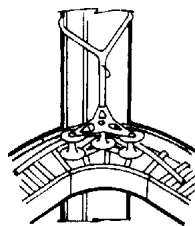

Figure 5.5
- b. On horizontal bends and vertical pulls, the cables are generally run through pulleys or sheaves to maintain a minimum bending radius (See Figures 5.5 and 5.6). Pulleys and sheaves must be of sufficient diameter to prevent pinching the cable between the pulley flanges. Each cable will have a minimum bending radius that must be maintained to prevent damage to the cable. Contact the cable manufacturer for the proper minimum bending radius. Multiple pulling tools may be required at one bend to maintain this radius. Be careful with the entry and exit angle of the cable at the pulling tool, as this angle can exceed the bending radius.